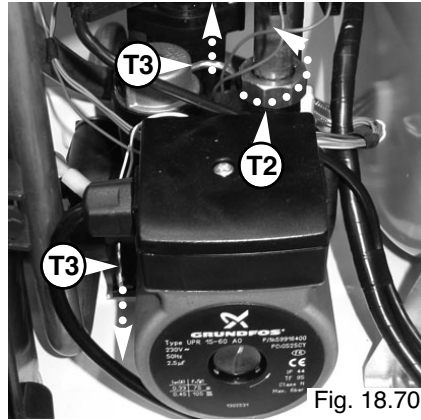

Fig. 18.70
5. Unscrew the pump nut "T2" and remove the two clips "T3" on the pump volute (see Fig. 18.70);